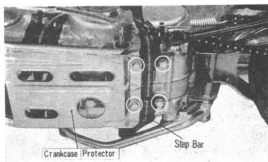

Fig. 5
Remove the crankcase protector from the engine at the bottom by removing the two bolts. (Fig. 5)
11. Remove the step bar by removing the two bolts. (Fig. 5)